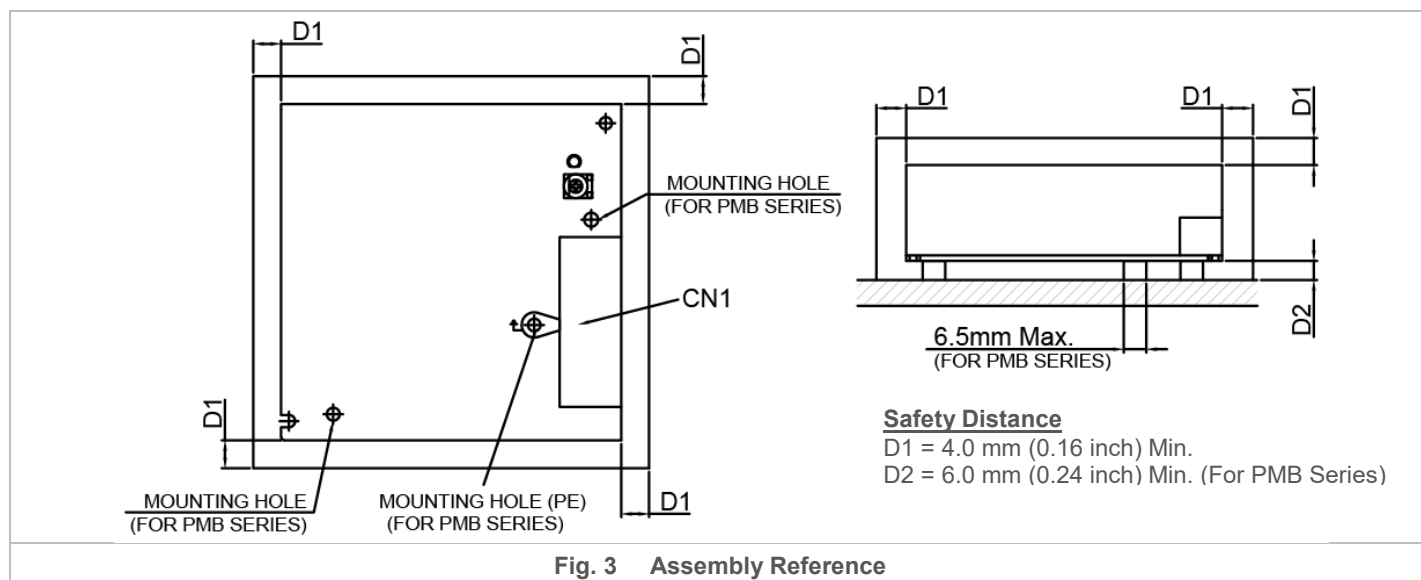

Fig. 3 Assembly Reference
- PM□-24V50W1AA□ / PM□-24V50W1AG:** Use flexible cable (stranded or solid) of AWG No. 22-12. User should calculate and select the suitable wire specification (type/quantity/diameter) according to actual output current. The torque at the Connector shall not exceed 13 Kgf.cm (11.23 lbf.in). The insulation stripping length should not exceed 0.275" or 7mm (Refer to Fig. 3).
- **For PMB Series: (Refer to Fig. 3):** The mounting holes on any mounting accessories for the device should be kept at a diameter of < 6.5 mm (0.26 inch). This is to ensure sufficient safety distance between the mounting screw and the components around the mounting holes on the PCBA. Therefore, the diameter of the mounting screw should be kept at < 6.5 mm (0.26 inch).